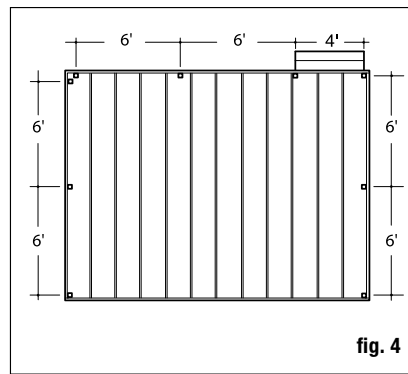

fig. 4
Step 1 Determine the layout and number of railing posts needed for your deck. Post spacing is 6' or 8' on-center. Posts are available pre-drilled for end and line posts. Cable is available in lengths of 5', 10', 15', 20', 25', 30', 40' and 50'. Many layout options are possible. One tip is to start with the most visible run. It's the one on which you want the least interference with the view, so you can start from there and build around it. Corner applications: When taking cable through a corner, do not bend the cable past 45° at any time. When turning 90°, a 2-step turn using a double corner post configuration is required, or stop the cable run and start a new run. Example: A 12' x 16' deck attached to a building with a 4' access opening on one side will require a total of nine posts (fig. 4).